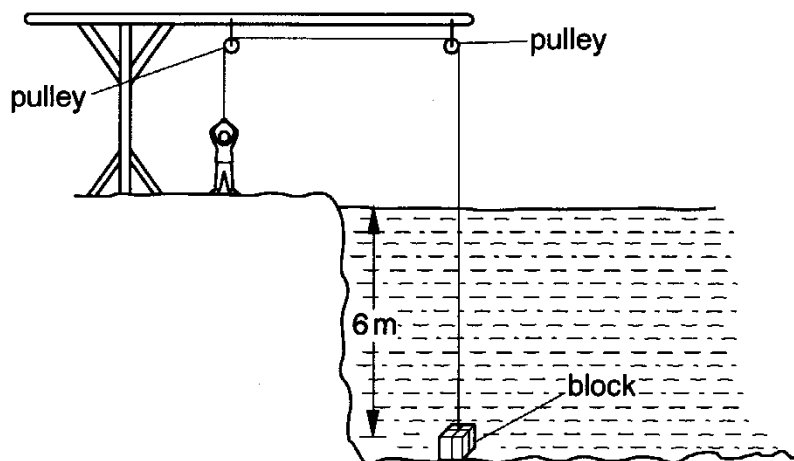

Fig. 8
Fig. 8 shows a person raising a concrete block from a river bed by using two pulleys.
- (a) As shown in Fig. 8, the top of the block is 6.0 m below the water surface. The density of water is 1000 kg/m^3 and the acceleration of free fall is 10 m/s^2 .
- (d) Some of the energy the person uses to raise the block is converted into heat energy. Indicate on the Fig. 8, using an arrow and the letter H, **two** places where heat is released. For each place, explain why heat is released there.